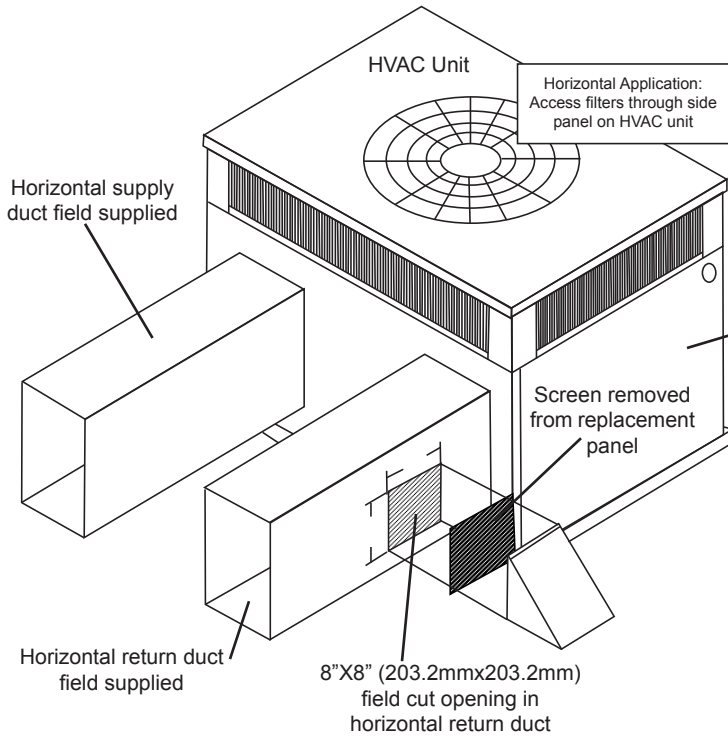

Fig. 3 - Hood Installation - Horizontal Application
1. Install field provided return air duct over the horizontal return opening per HVAC unit instructions. See Fig. 3.
2. Cut 8" x 8" (203.2mm x 203.2mm) square opening side of horizontal duct. Fig. 3.